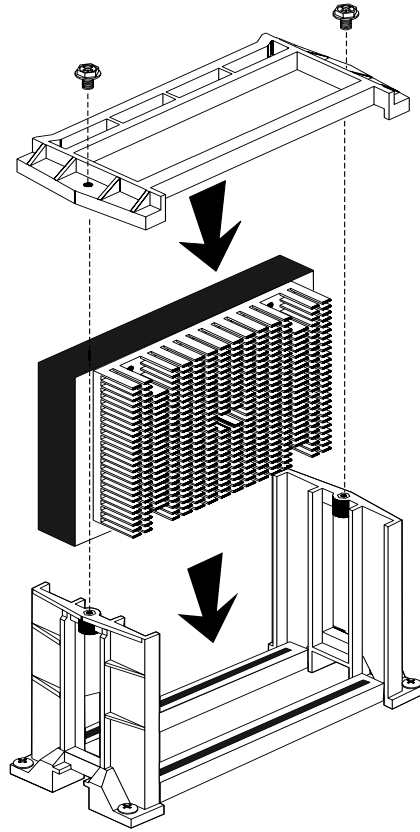

Figure 13: Installing the Replacement Processor
7. Slide the cartridge all of the way down until it is firmly seated. See Figure 13.